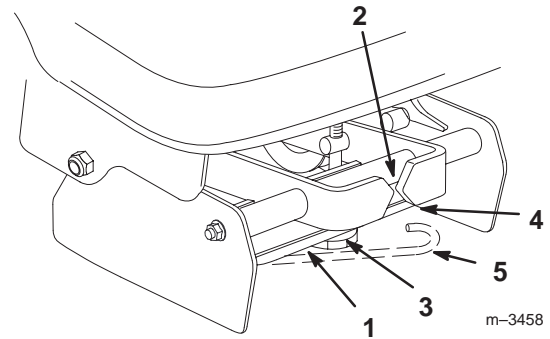

Figure 33
1. Check the tension indicators on the front of the pulley box. If the tension indicators do not line up, release the belt tension and turn the adjustment knob. Push the belt tension release arm back toward the pulley box to tension the belt (Fig. 33).
3. Swing the tension release arm into the pulley box by moving it into the position shown in Figure 33.